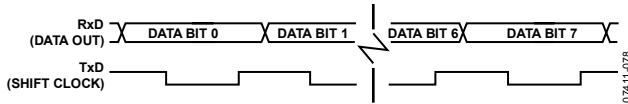

Figure 82. 8-Bit Shift Register Mode
Reception is initiated when the receive enable bit (REN) is 1 and the receive interrupt bit (RI) is 0. When RI is cleared, the data is clocked into the RxD line, and the clock pulses are output from the TxD line as shown in Figure 82.